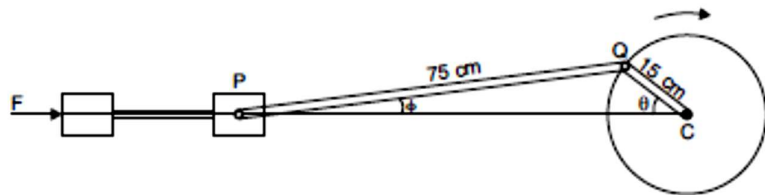

Figure 2
- Q.2(a) A steam engine has a crank of radius 15 cm and connecting rod of length 75 cm as shown in Figure 2. The crank CQ rotates in a clockwise direction with a constant speed of 300 r.p.m. Calculate the velocity of the piston P at the instant when the angle $\theta = 30^\circ$. Also calculate the angular velocity of connecting rod. [5] 2 M